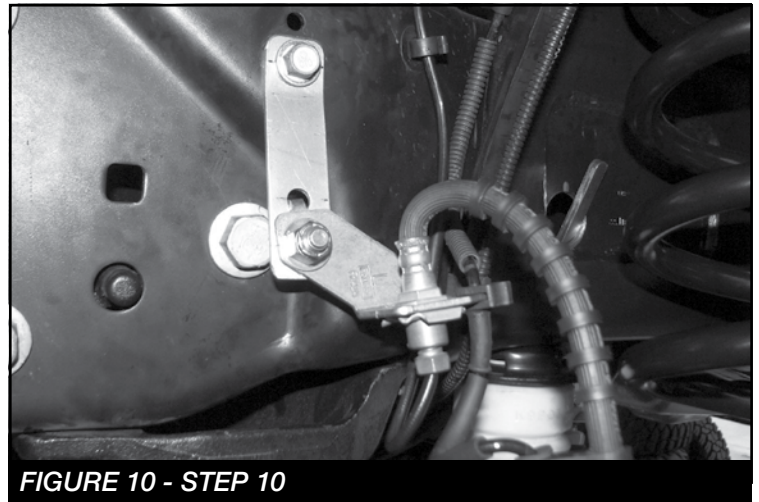

FIGURE 10 - STEP 10
10. Install FT30659 (Brake line bracket) to the factory brake line tab using the supplied 3/8" hardware. Next, install the bracket to the frame using the factory hardware. Torque hardware to 52 ft-lbs. **SEE FIGURE 10**